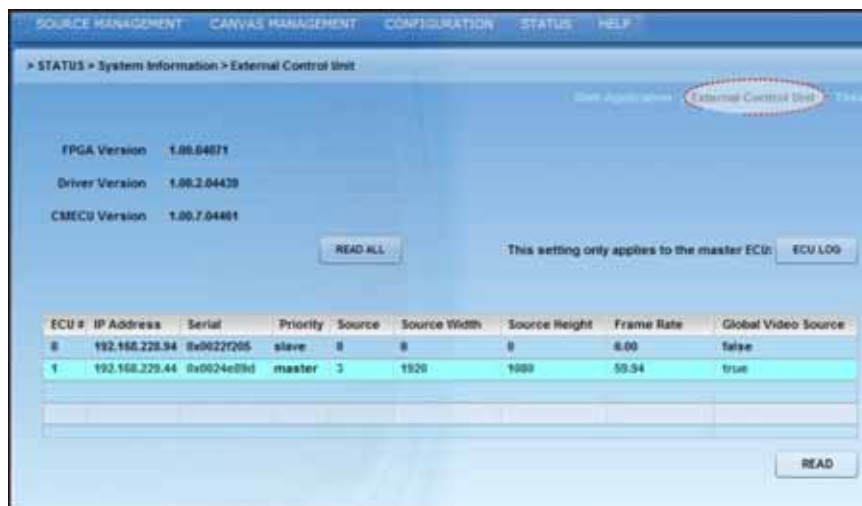

Figure 3-46 Status>System Information>External Control Unit
3. Select **External Control Unit** from the available screen selections (**Figure 3-46**).